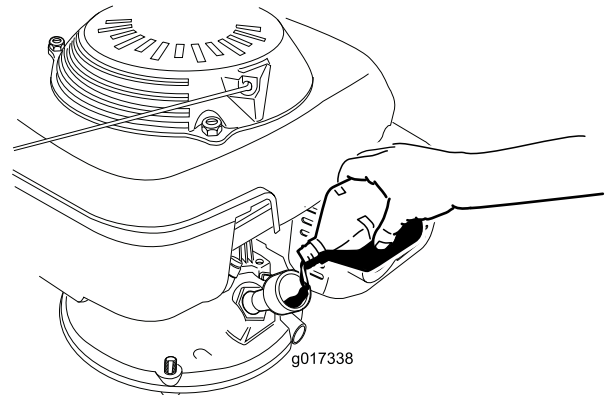

Figure 7
3. **Slowly** pour oil into the oil fill hole, wait 3 minutes, and check the oil level on the dipstick by wiping the dipstick clean and then inserting, **but not screwing in**, the oil fill cap into the hole (Figure 7).